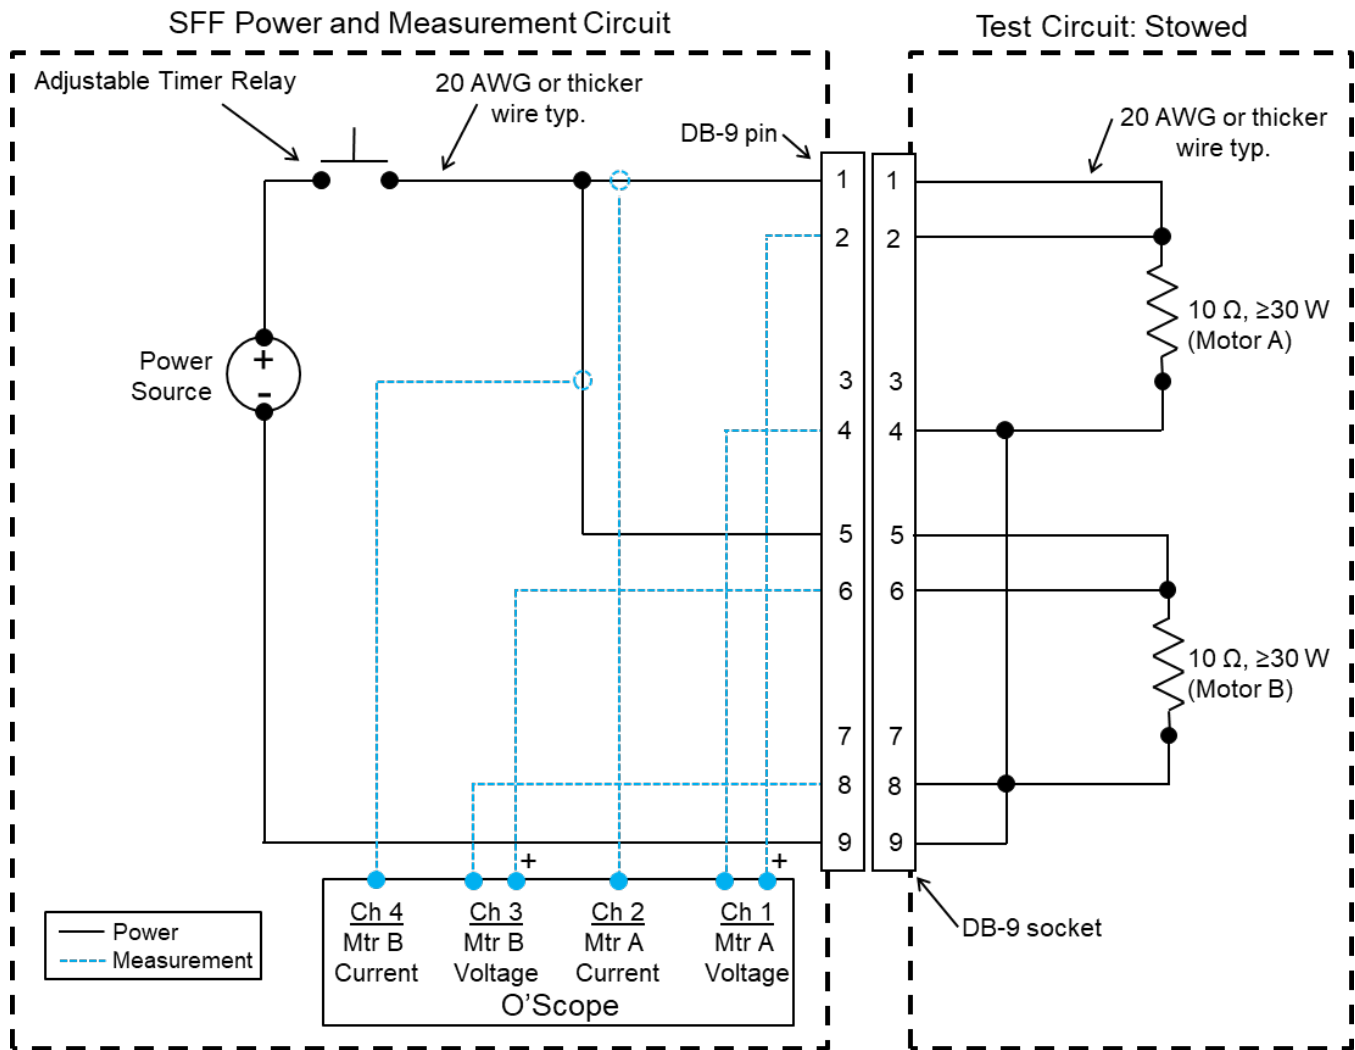

Figure 10-1: SFF test circuit #1
10.1.2	Set up the SFF Power and Measurement Circuit portion of SFF Test Circuit #1 per Figure 10-1. Caution: If oscilloscope channels share common ground be cognizant of their effect on the circuit (see section 17). Also, do not connect the negative voltage probe to ground as this will bypass the Lightband's limit switches and allow it to Deploy.
10.1.4	Set up the Test Circuit: Stowed portion of SFF Test Circuit #1 per Figure 10-1 and connect to the SFF Power and Measurement Circuit .